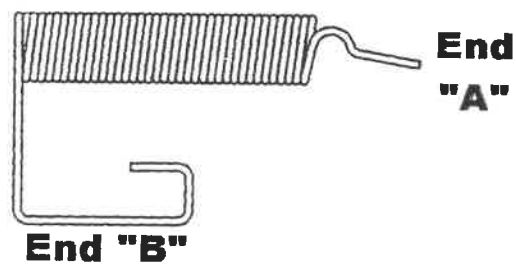

Figure 6
7. Insert the spring end "A" (see figure 6) in the hollow end of the delivery door rod.
9. Hook the spring end "B" (see figure 6) up over the top edge of the recovery unit and in the hole drilled in step 5.